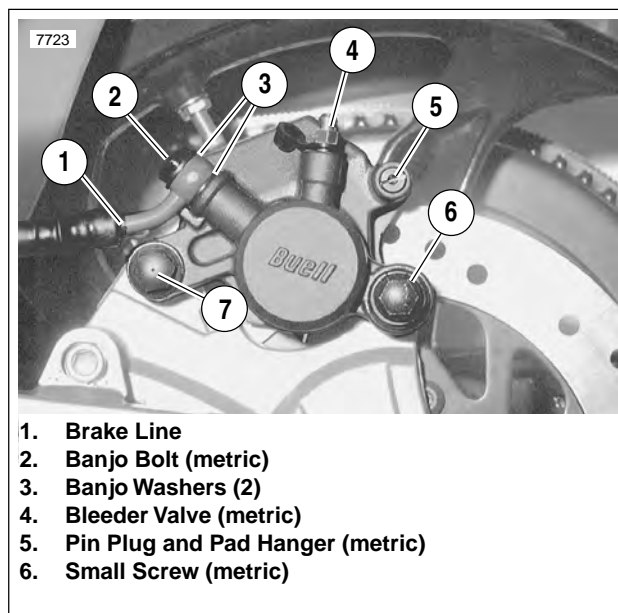
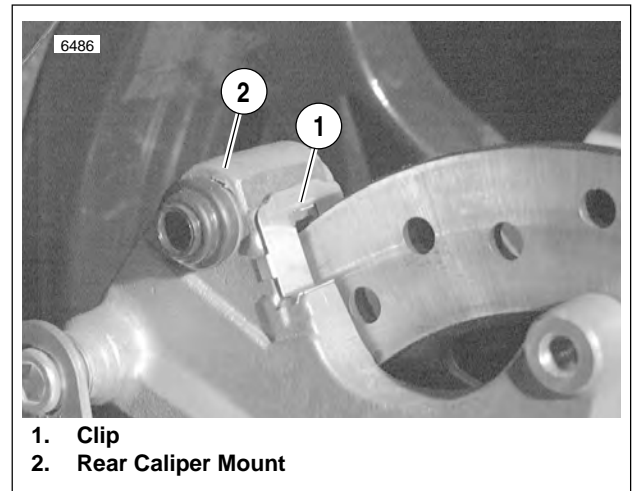

Figure 2-47. Rear Brake Caliper (Typical)
Figure 2-48. Caliper Mount Clip
2. See Figure 2-47. Remove banjo bolt (2) (metric) and two banjo washers (3) to disconnect brake line (1) from caliper. Discard banjo washers.
3. Remove small screw (6) (metric) and large screw (7) (metric) to detach caliper from mount.
4. See Figure 2-48. Remove clip (1) from rear caliper mount (2) if necessary.
1. See Figure 2-47. Remove pin plug and pad hanger (5) (metric) to free brake pads.
2. See Figure 2-48. Remove clip (1) from caliper body.
- See Figure 2-48. Install caliper mount clip (1) if removed.
- See Figure 2-47. Install caliper assembly on caliper mount. Brake pad surfaces must face rear brake rotor.
- Install large caliper screw (7) (metric). Tighten to 18-22 ft-lbs (24.4-29.8 Nm)
- Install small caliper screw (6) (metric). Tighten to 14.5-18 ft-lbs (19.6-24.4 Nm).